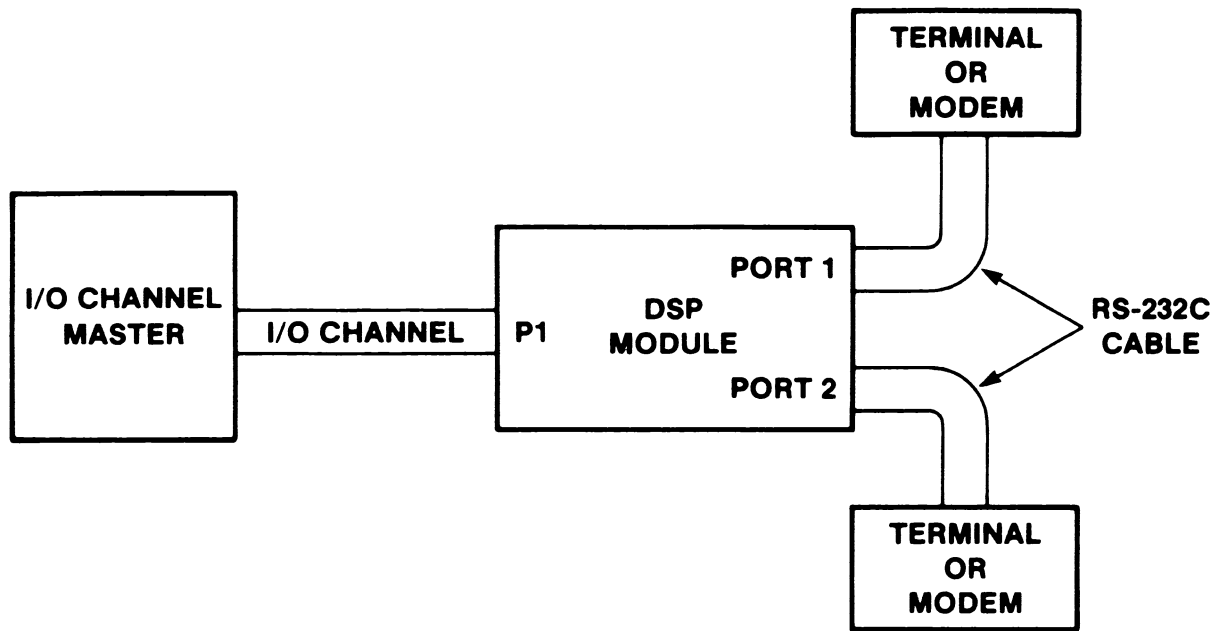

FIGURE 2-10. Typical DSP Interface Cabling Diagram
- d. The DSP can be connected to any combination of terminals or modems (up to a total of two) by mating one or two male subminiature D, 25-pin RS-232C connectors to front panel female subminiature D connectors. Flat ribbon cable is not recommended because excessive cross-talk can occur on the clock lines, resulting in errors. Figure 2-10 illustrates a typical interface cabling for the DSP.